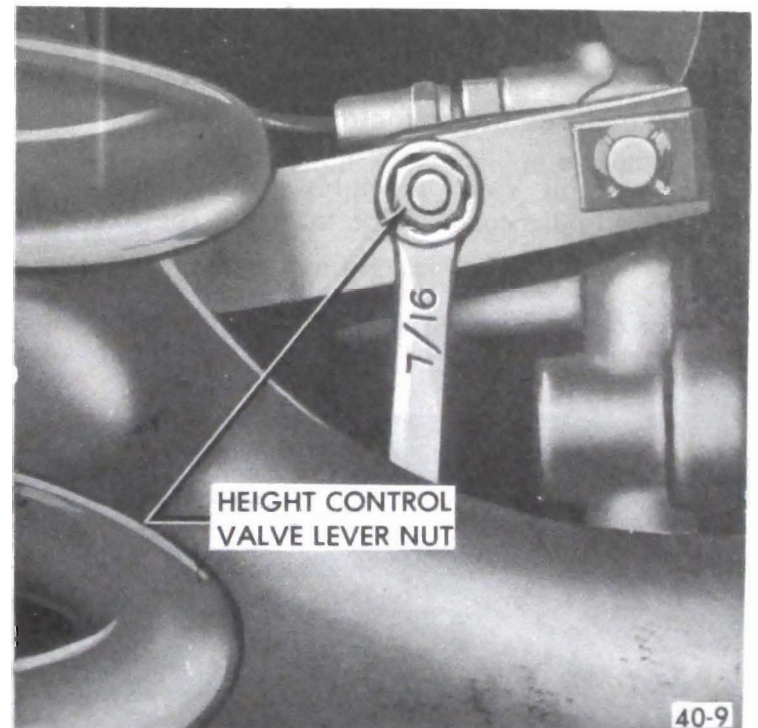

Figure 40-31 - Loosen Height Control Valve Lever Nut
1. Loosen height control valve lever adjusting nut. See Figure 40-31.